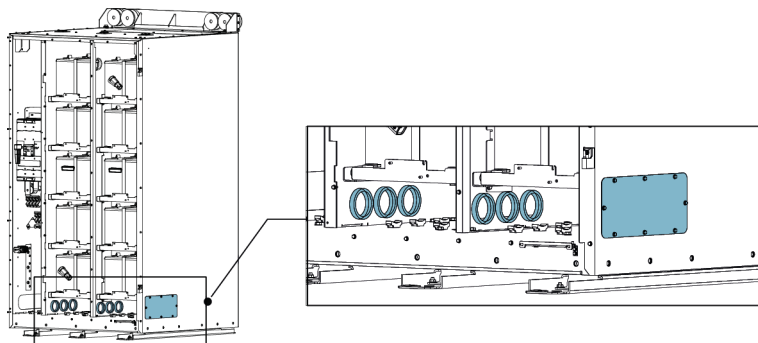

Figure 5. Battery cabinet through holes 1
- through the right side panel (see Figure 5)
4. Route the signal wires and power cables through the through hole of your choosing. See Figures 5 and 6 for more information.